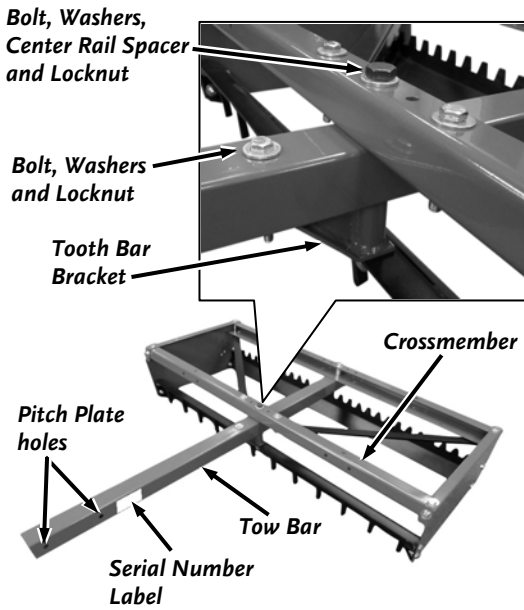

Figure 8
6. Position the Frame Assembly with the front facing forward and both Crossmembers on top (**Figure 8**).